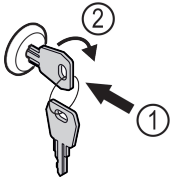

Fig. 178
- ▶ Insert the key. Fig. 178 (1)
- ▶ Turn the key clockwise by 90°. Fig. 178 (2)